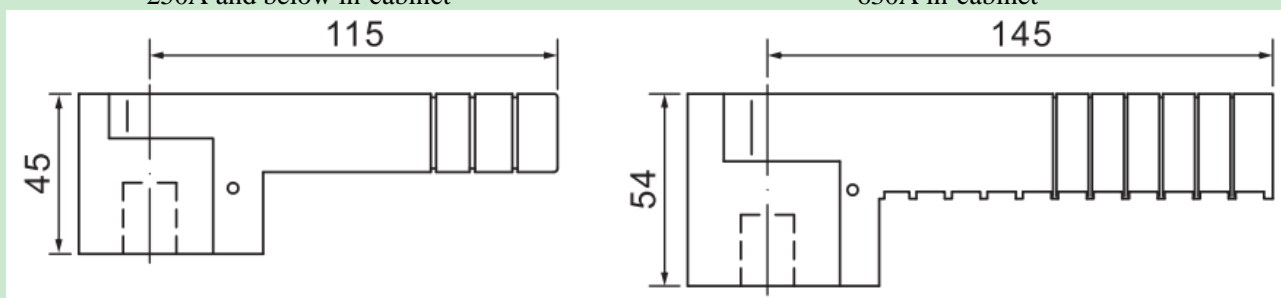

Fig. 9: Dimensions of the handle in cabinet
6.5 The operating handle in the cabinet is illustrated in Fig. 9